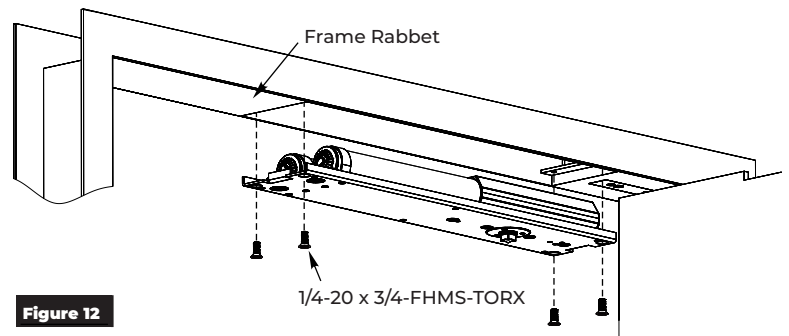

Figure 12
1. Install closer into frame with using a T30 Security Torx bit and four (4) 1/4-20 x 3/4-FHMS-TORX screws. (Figure 12)